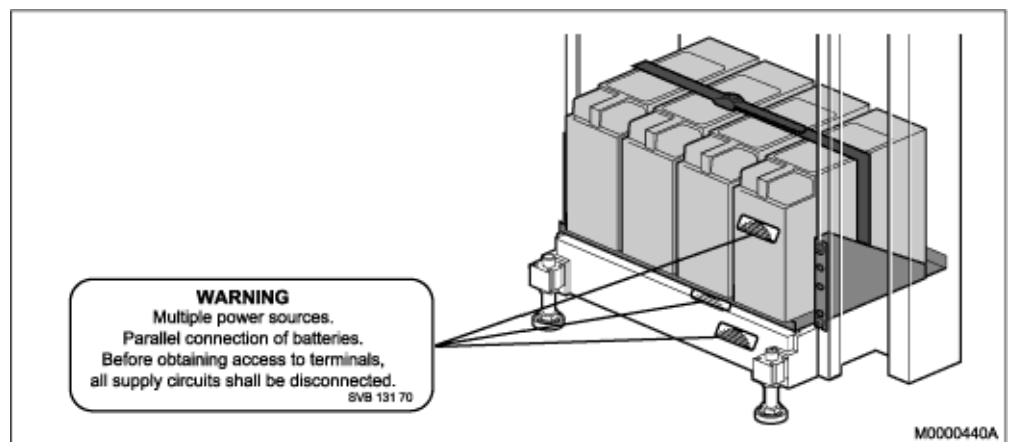

Figure 17: Parallel Connection of Batteries Warning Label
12. Fasten three warning labels, parallel connection of batteries (SVB 131 70), one on the right-hand side battery, and two at the bottom of the cabinet, see Figure 17:Parallel Connection of Batteries Warning Label on page 23 and see Figure 35:Warning Label SVB 131 70 on page 41.